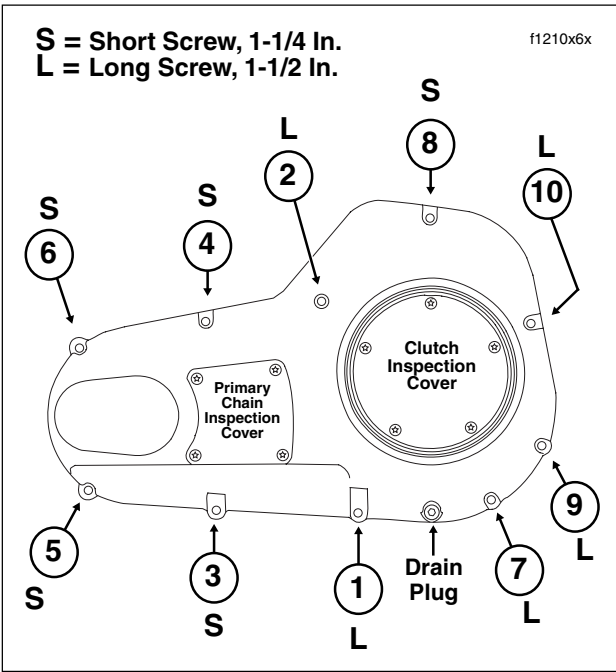

Figure 6-42. Primary Chaincase Cover Torque Sequence and Screw Size
21. Start ten allen head socket screws (five long, five short) with flat washers to install primary chaincase cover. Tighten screws to 84-108 **in-lbs** (9-12 Nm) in the numerical sequence shown in Figure 6-42.